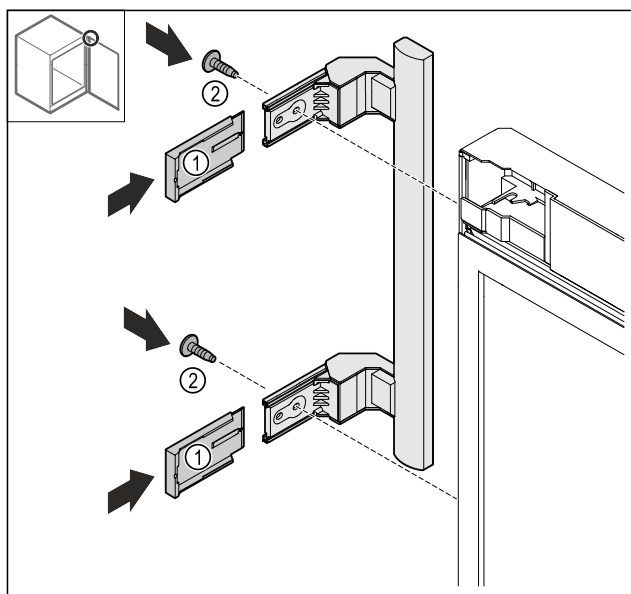

Fig. 25
- Slide on the Fig. 25 (1) covers.